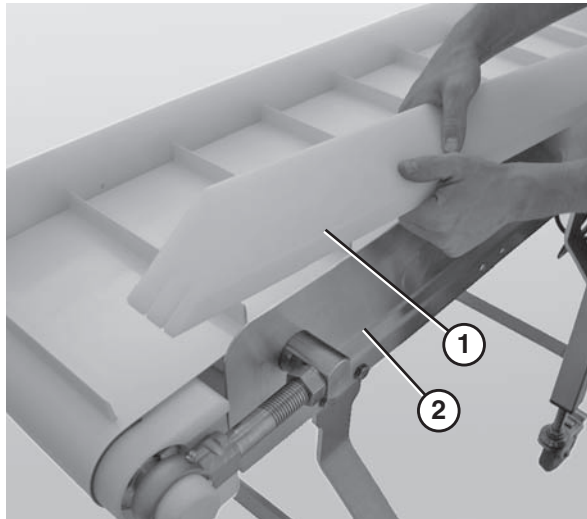

Figure 18
1. Position the guide (**Figure 18, item 1**) so that the flat surface is facing the belt and then slide the guide onto the frame rail (**Figure 18, item 2**).